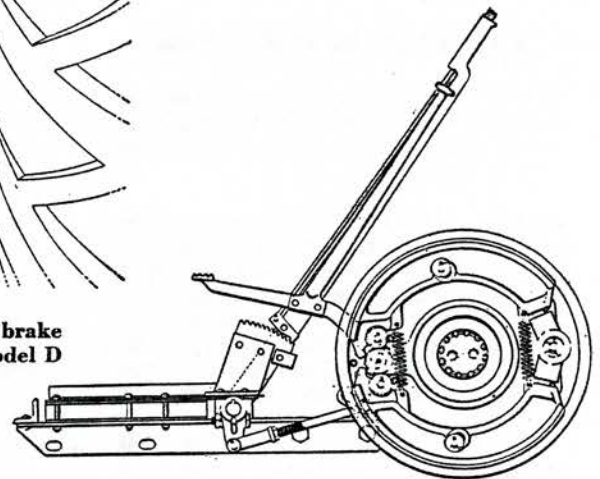

Fig. 47 Wheel brake details. Model D
**NOTE**—Whenever the drive chains require adjustment, it is necessary to loosen the three cap-screws attaching the brake brace to the transmission case before rear axle quill can be turned. Turning the quill to adjust the chain will make it necessary to adjust the brake operating rod. To adjust the brake operating rod, remove pin from brake rod yoke and push hand lever against forward stop, Fig. 47. Adjust yoke on rod so that yoke pin hole aligns with pin hole in brake cross shaft lever when pin in forward end of brake rod is against forward end of slot in pedal.